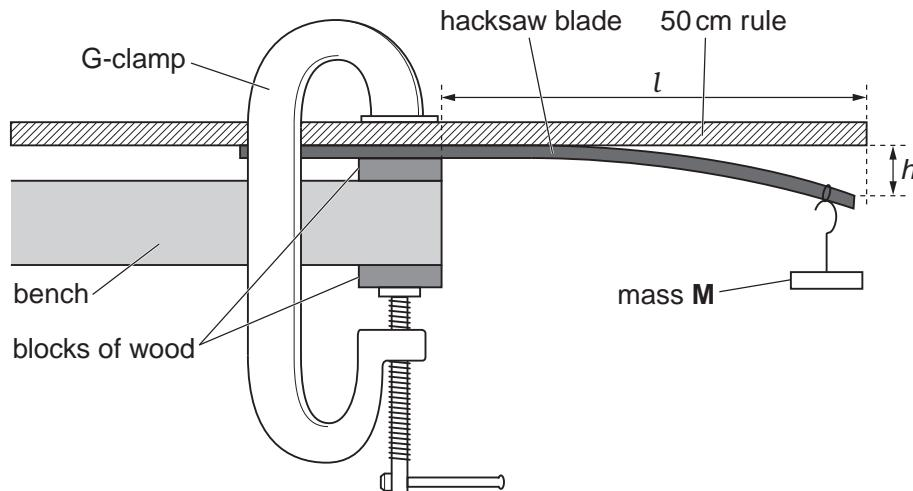

Fig. 1.1
- 1 × G-clamp as shown in Fig. 1.1, 10 cm size may be suitable
- 1 The apparatus should be set up for the candidates, as shown in Fig. 1.1, with the length l at approximately 25 cm.
- 6 The first 50 cm rule is to be used as indicated in Fig. 1.1. The second 50 cm rule should be placed at the side of the apparatus for the candidate to use to measure h . A metre rule may be used provided the bench top is more than 1 m above the floor.